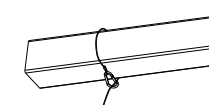

Figure 16
4. Fasten the other end of the wire rope to the outlet box or the mounting structure of the outlet box. (figure 16).